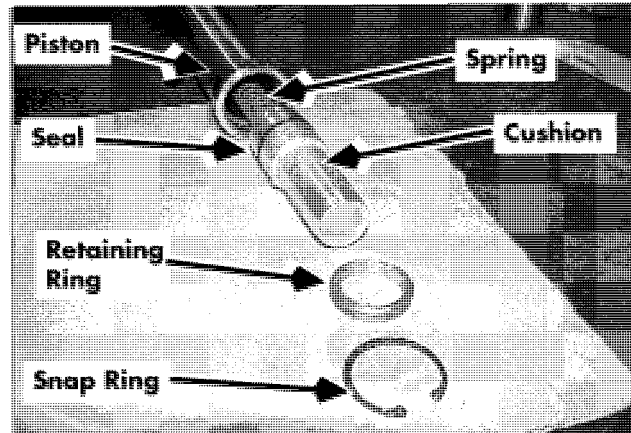

Figure 7-100. Cushion, Removed
7. Remove snap ring and retaining ring. See Figure 7-100.
8. Release pressure on cushion and pull cushion out of piston. See Figure 7-100.
9. Remove spring. See Figure 7-100.